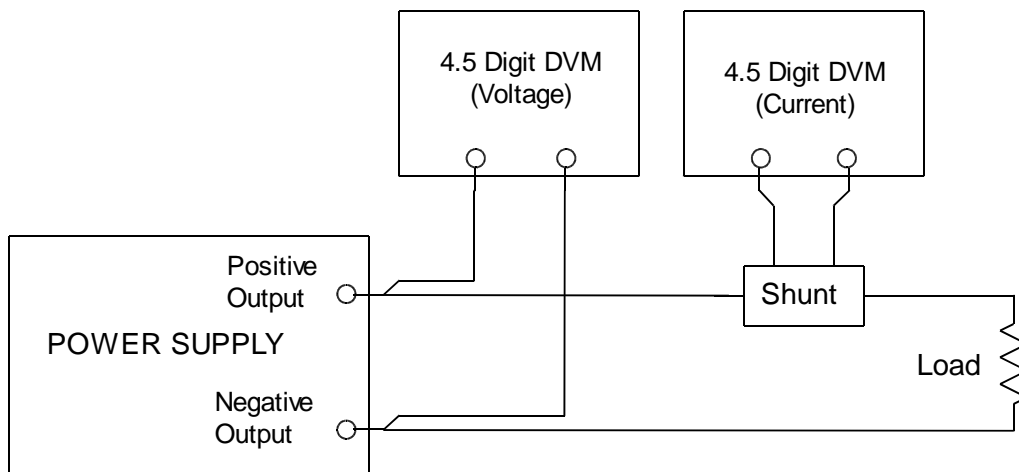

Figure 7.1: Output Calibration Connections
1. Connect the calibration load, shunt and meter(s) to the output of the power supply as shown in **Figure 7.1** below.